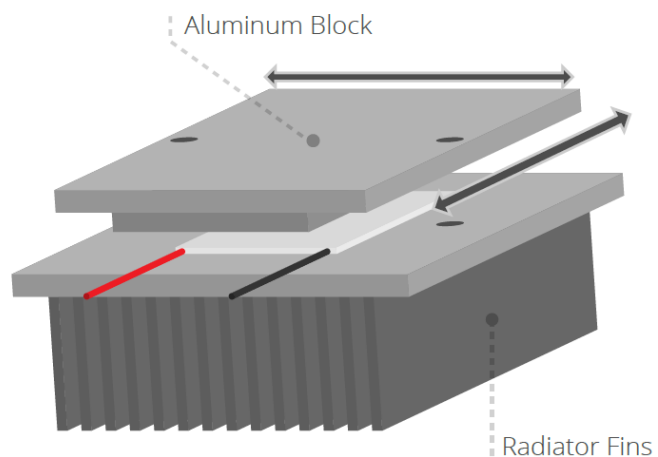

FIGURE 5. INSTALLING THE ALUMINUM BLOCK
- 6) Place the aluminum block onto the heat absorbing side of the Peltier Module. Once again, apply light pressure to the block and slide it back and forth, left and right, to ensure a tight fit and lose any layer of air between the connecting sides. **(figure 5)**